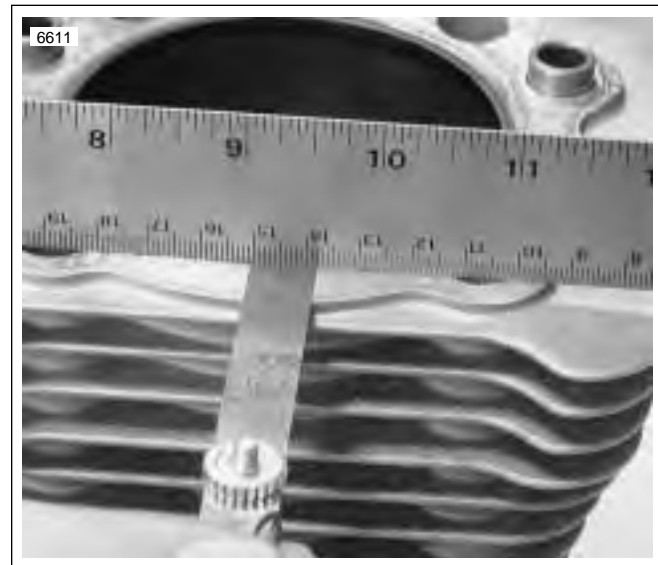

Figure 3-90. Checking Gasket Surfaces
1. See Figure 3-90. Check cylinder head gasket surface for flatness.